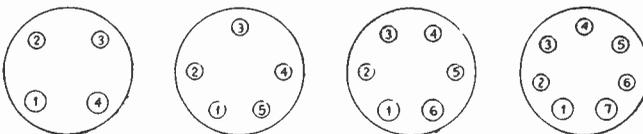

Figure 1
The figure 1 (first digit or two digits), is used for voltages below 2.1 (2 and 1/10th) volts, 2 is used for voltages between 2.1 and 2.9 (2 and 9/10ths) volts, 3 for voltages between 3 and 3.9, 4 for voltages between 4 and 4.9, 5 for voltages between 5 and 5.9, 6 for voltages between 6 and 6.9, etc.
R. M. A. STANDARD—Looking at the pins of the tube base. Bottom of chassis or direct toward pins as shown in Figure 1(b), one filament or heater pin (large pin in the case of 4, 5 and 6 pin bases) is numbered 1, and the numbering carried clockwise around the pin circle to the other filament or heater pin.—Note: If you look on the tube socket top of chassis or tube base top of tube, the right hand filament pin is 1 and numbering is then carried counter clockwise to the other heater or filament pin, as shown in Figure 1 (a).